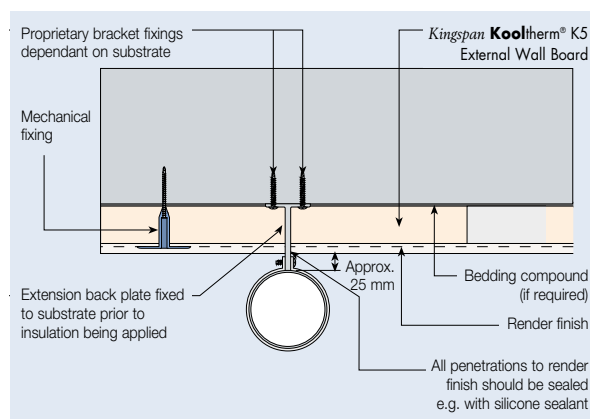

Figure 8 – Drainpipe Extension Detail (Applicable to a Variety of External Building Ancillaries)
- Wherever possible, care should be taken to avoid cold bridging when attaching services and ancillaries to the exterior of the building (see Figure 8).